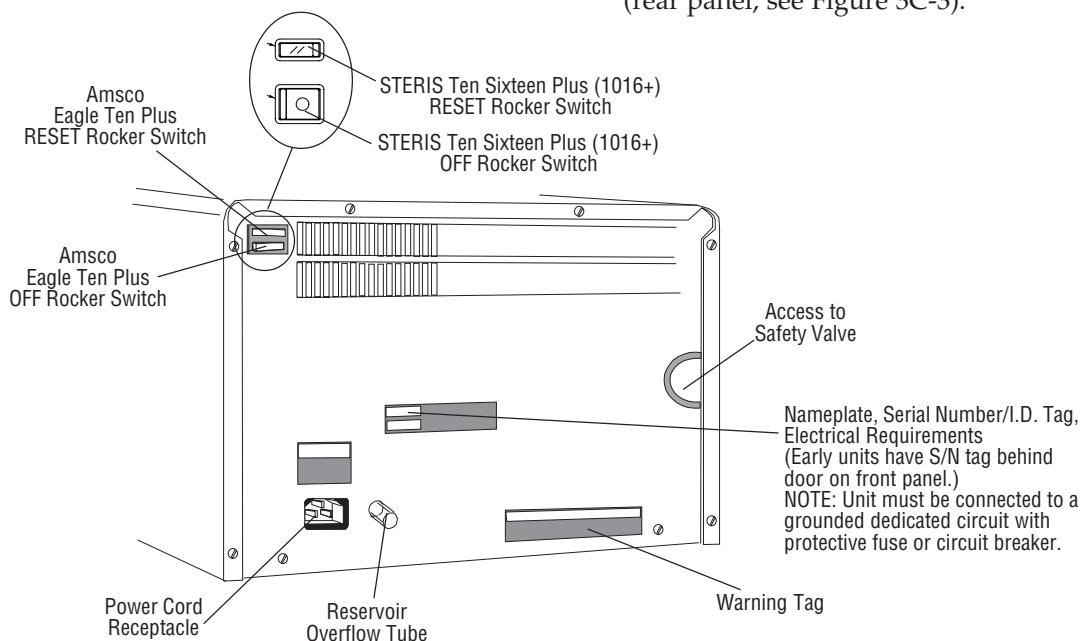

**Figure 3C-3**
- **Chamber Pressure Gauge** - displays the current pressure inside the chamber (0-60 psig). If this pressure gets too high (see Tables 3C-1 and 3C-2), it is released through the safety valve (rear panel, see Figure 3C-3).
- **Printer** (optional) - records all cycle data on 2-1/4" (5.72 cm) wide, single-ply thermal paper (see Figure 3C-4). See Section 7.14 for paper ordering information and Section 5.1.4.4 for paper reloading information.